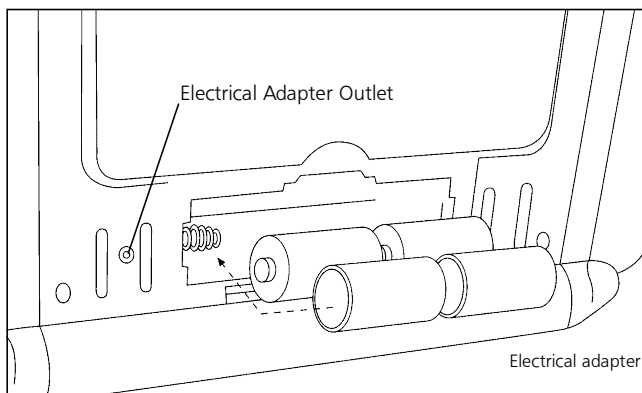

Figure 2
- Installation of 4 D-cell batteries is required for fan operation. Battery box is located on lower back panel of heater. Follow instructions on battery cover for correct battery installation. See figure 2.
- Heater fan can also be powered by electrical adapter F276127. Required adapter to be 6 volt DC up to 800 milliamp current with positive tip polarity. See figure 2.
- Heater fan can also be powered by electrical adapter, F276127. Required adapter to be 6 volt DC up to 800 milliamp current with positive tip polarity. See figure 2.